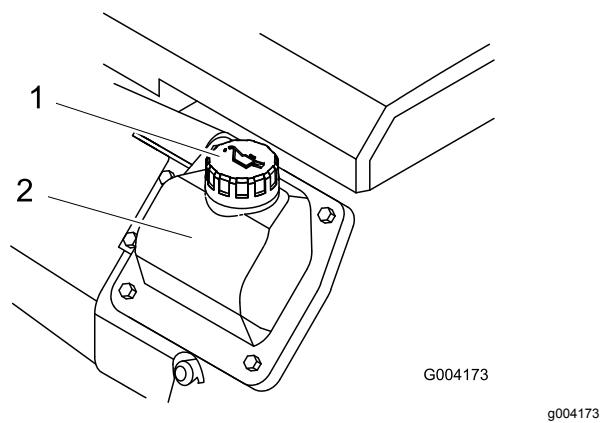

Figure 36
- If the oil level is low, clean around the oil-fill cap and remove the cap (Figure 36).
- Remove the fill cap (Figure 36) and slowly pour approximately 80% of the specified amount of oil in through the valve cover.